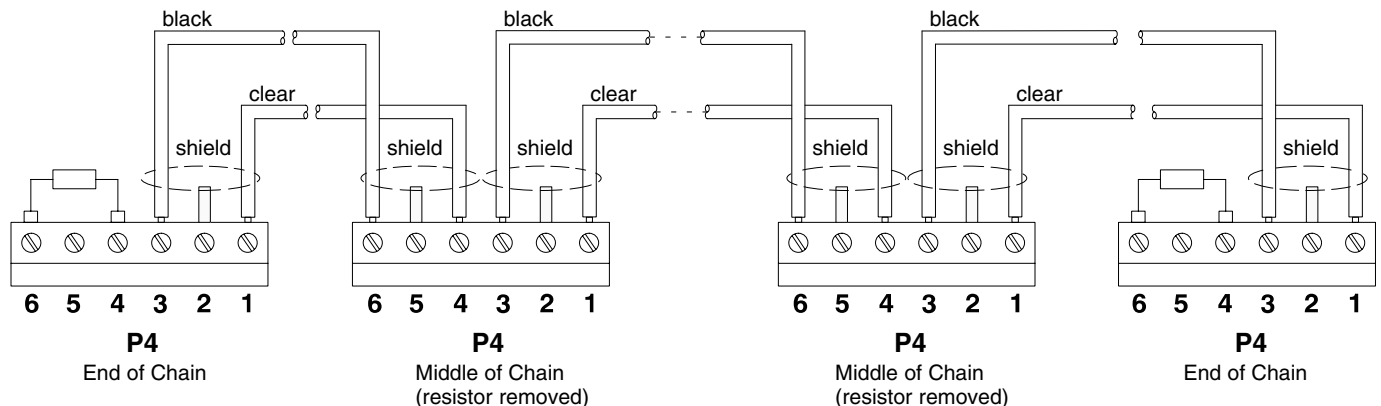
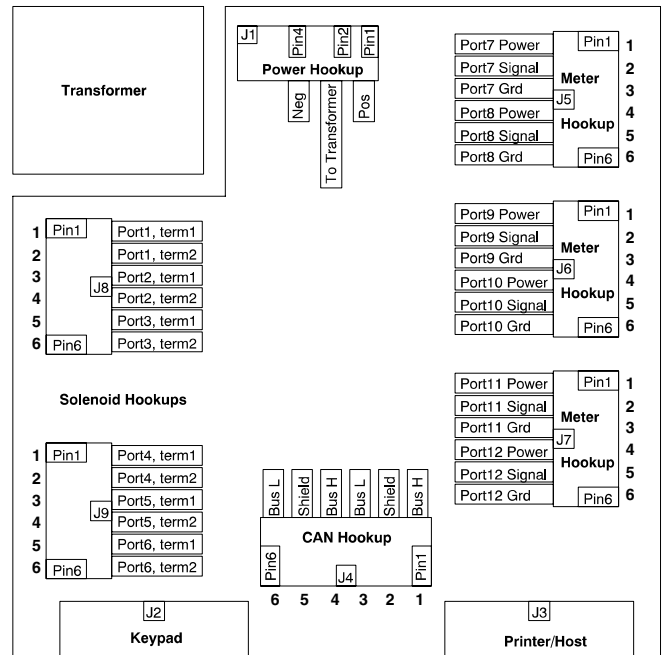

Fig. 10
Fig. 9
NOTE: See Fig. 9, page 15, for connector locations.
The cables are connected at each control module by stripping the wires and connecting the wires as shown in Fig. 10. Refer to Fig. 9 for the placement of the control module connectors.
- Connect the control module(s) in the middle of the network chain as shown in Fig. 10, with the terminating resistor removed.
- Connect the control modules at the end of the network chain as shown in Fig. 10, with the terminating resistor in place.